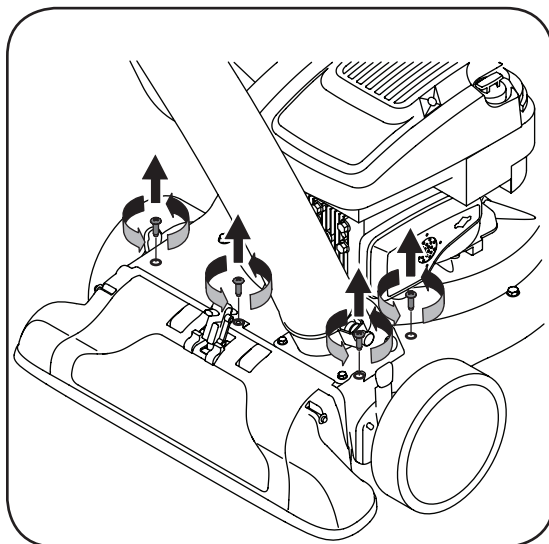

Figure 5-7
6. Remove the four screws on the upper housing that secure the nozzle cover. See Figure 5-7.